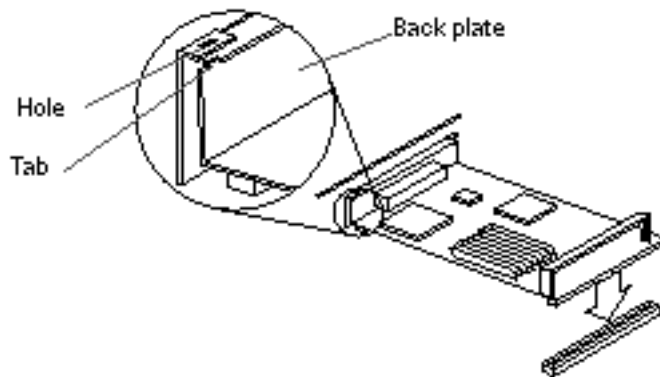
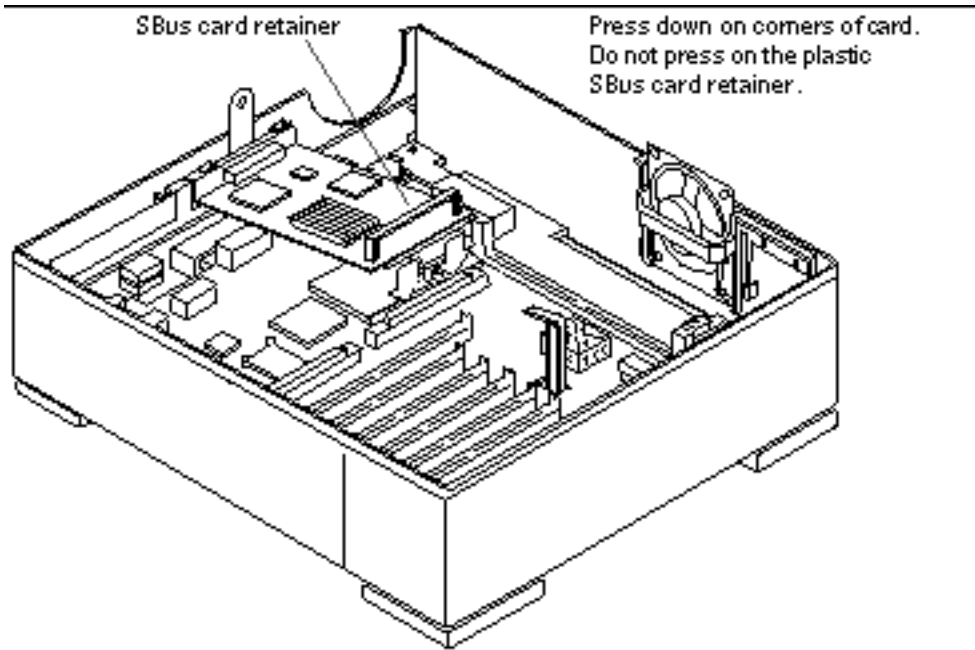

Figure 11-3 Positioning the SBus Card
Figure 11-4 Connecting the SBus Card
5. Align the mounting plate of the new SBus card with the rectangular opening in the system unit's back panel (see Figure 11-3 and Figure 11-4).
Align the connector on the card with the SBus slot on the main logic board. Press gently on the corners of the SBus card until the connection is secure (see Figure 11-4). *Do not force the card.*